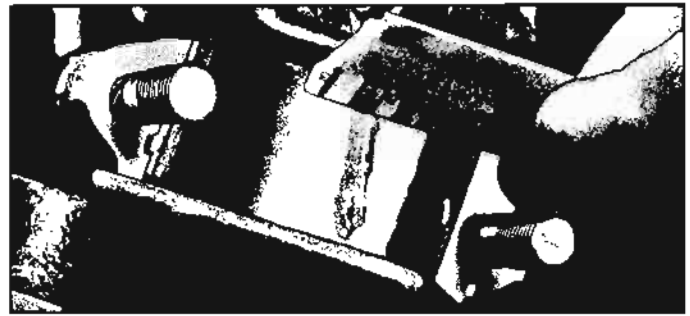

Fig. 6A-86—Measuring Plastigage
3. Place a piece of Plastigage the full width of the bearing or crankpin (parallel to the crankshaft) (fig. 6A-85).